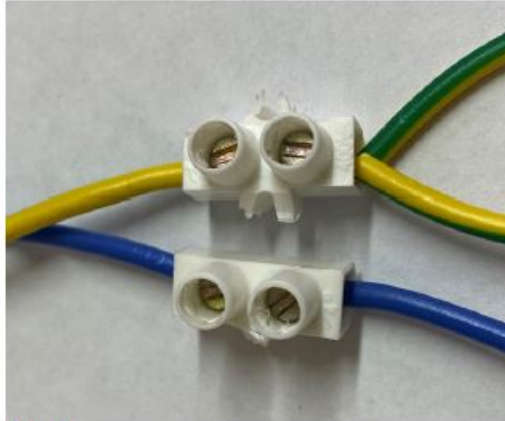

fig.4
- Earth Wiring: Connect inside switch case Earth wire Power (green/yellow) to Earth wire Motor (green/yellow) and Earth wire Case (green/yellow) (fig.4).
- Neutral Wiring (No safety brake): Connect inside switch case neutral wire power (blue) to neutral wire motor (blue) (fig.4).
6. Earth wiring: Connect inside switch case Earth wire Power (green/yellow) to Earth wire Motor (green/yellow) and Earth wire Case (green/yellow) (fig.4).3 Cut the rubber at the bottom of the rocker switch
7. Neautral Wiring (No safety brake) – connect inside switch case neutral wire power (blue) to neutral wire motor (blue) (fig.4).
6. Earth wiring: Connect inside switch case Earth wire Power (green/yellow) to Earth wire Motor (green/yellow) and Earth wire Case (green/yellow) (fig.4).